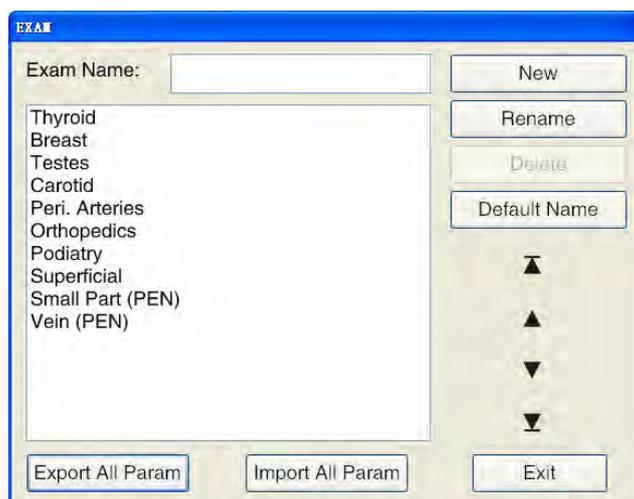

Fig. 5-18 Exam setup screen
- a) Move the cursor to **Edit** and press **Set** to call up the screen for setting the examination, as shown in Fig. 5-18.